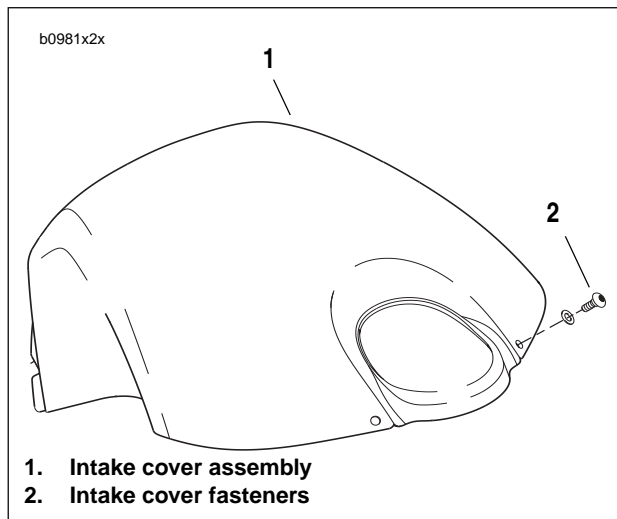

Figure 2-107. Intake Cover Assembly
2. See Figure 2-107. Remove fasteners and nylon washers (2).
3. Remove intake cover assembly (1).
2. See Figure 2-107. Secure intake cover assembly (1) with fasteners and nylon washers (2). Tighten to 12-36 **in-lbs** (1-4 Nm).